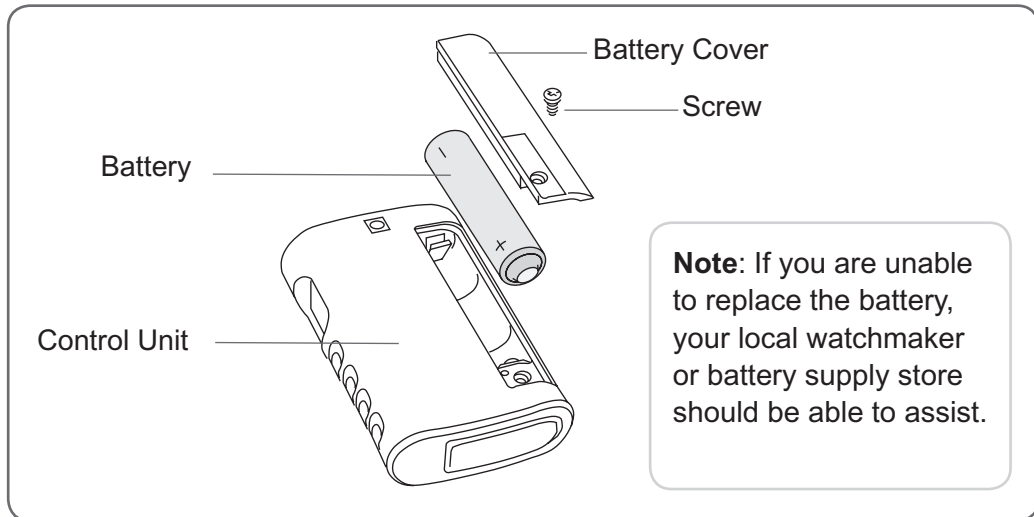

Figure 49: Replacing the Control Unit battery.
1. Remove the screw from the battery cover on the back of the Control Unit. See Figure 49. (The screw may be under a small label. If so, gently peel off one end of the label. Reapply the label after the battery is replaced.)